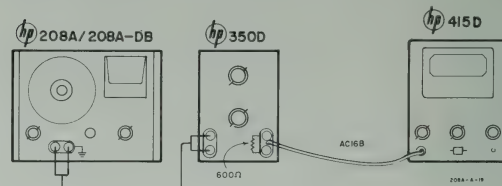

Figure 5-8. Attenuation Check
- Connect equipment as shown in Figure 5-8.
- Disconnect the Model 208A from test setup shown in Figure 5-8. Connect a 600 ohm resistor and an AC Voltmeter to the OUTPUT terminals of the Model 208A.